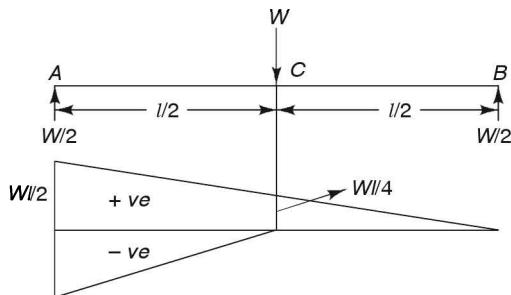

FIGURE 10.10 Mohr's theorem.
3. Mohr's theorem (Moment Area Method): The change of the slope between any two points on an elastic curve is equal to the net area of the bending moment diagram between these points divided by EI . The intercepts taken on the vertical reference line of tangents at any two points on an elastic curve is equal to the moment taken from the reference point of the area of the BM diagram between these two points divided by EI . This is called *Mohr's theorem* or *moment area method*. Refer to Figure 10.10. Showing a simply supported beam loaded at the centre BM diagrams are also shown for reaction R_b ($= W/2$) and load (W).